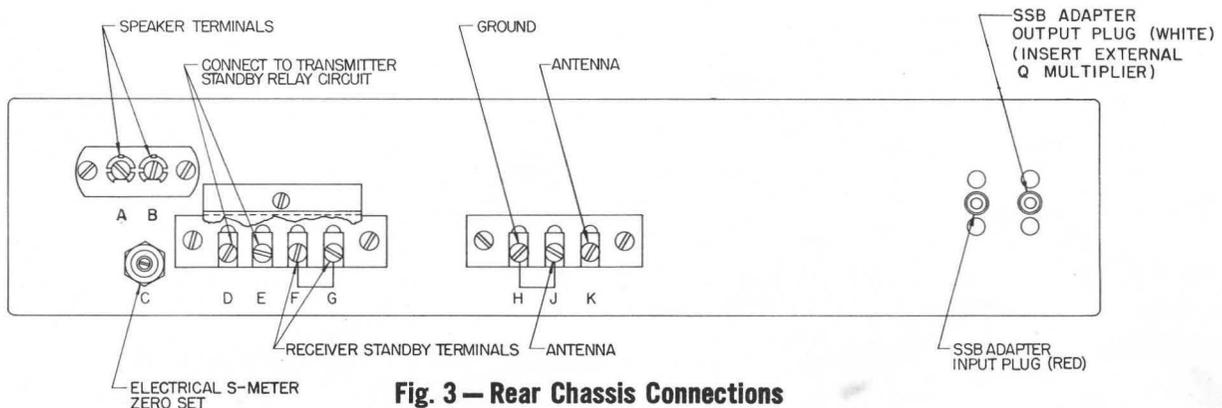

Fig. 3 — Rear Chassis Connections
The lower left connector strip is normally connected with F-G jumper (See Fig. 3) when it leaves the factory. The receiver will not operate without this circuit being closed either with the jumper as shown or with another closed circuit, such as a pair of closed switch or relay contacts. The receiver is muted by opening this circuit.
Two jacks are provided on the right-hand side of the rear chassis (See Fig. 3) for quick and complete interconnection of the RME 4350 receiver and the RME 4301 single sideband selector. The jacks are color coded as are the plugs on the sideband selector and should be mated for color when interconnecting. The "red" jack is an audio input circuit connection and the "white" jack is the IF input circuit connection to the selector from the receiver. The schematic diagram shows the exact circuitry.
Next connect the RME 4202 speaker or a suitable substitute with 4-ohm voice coil to the speaker terminals (See Fig. 3). The power supply plug may now be plugged into the source (117 V—50/60 cycle AC). Now connect a suitable antenna, (See preceding page) and rotate RF-gain control to full clockwise position. After a minute or so, set stand-by switch to "Rec" and the receiver will come to life as evidenced by atmospheric background noise and/or signal. The S-meter should read around "O" if no signal is being received and if ambient electrical noise is not unusually high. If the meter reads up without signal and in the absence of abnormal noise, disconnect the antenna momentarily, switch band selector to 28 mc band and with controls maintained in the suggested position (especially max. clockwise for RF gain), set the S-meter to "O" by means of the meter balance control (C) on the rear apron of the chassis (See Fig. 3). When this has been done, the antenna may be reconnected and the band selector switch restored to a desired frequency band.